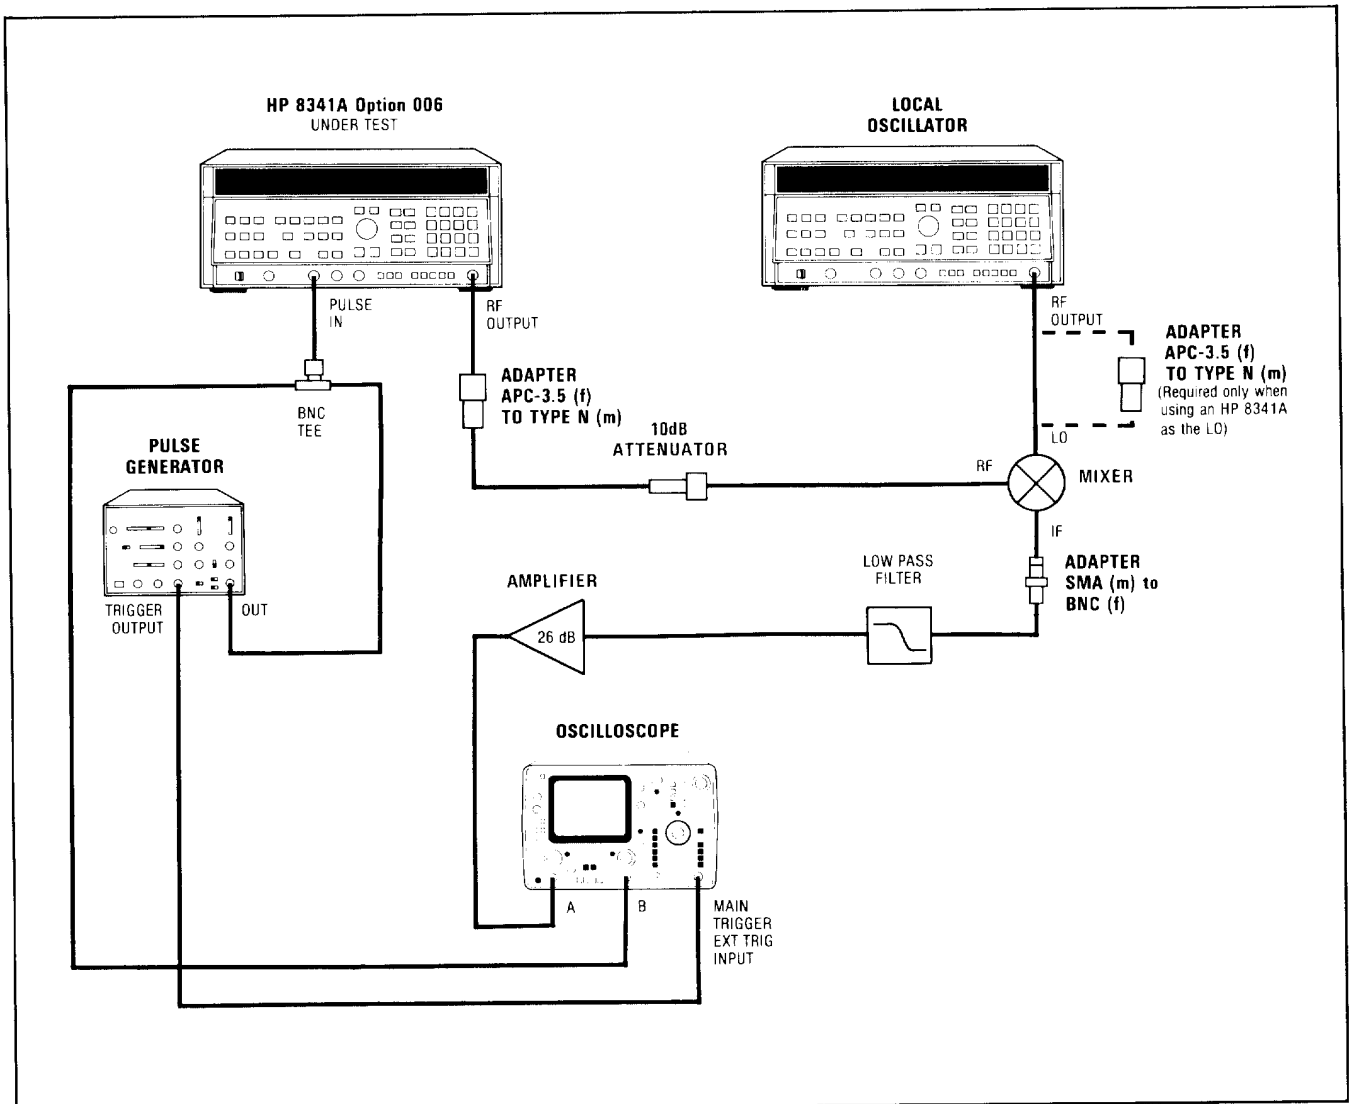

Figure 4-16. Pulse Modulation Accuracy Test Setup
1. Connect equipment as shown in Figure 4-16. Connect the mixer directly to the LO HP 8341A RF output connector to obtain the maximum mixer LO input level. Connect the BNC tee directly to the HP 8341A PULSE IN connector. Allow at least 30 minutes warm up time.